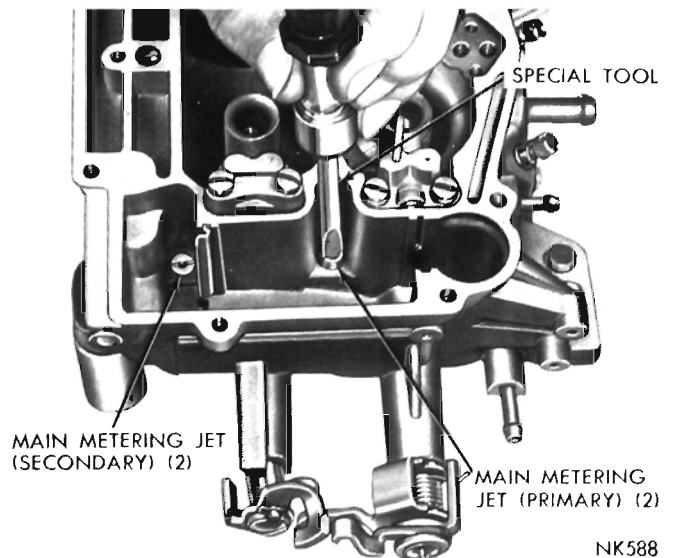

Fig. 4—Removing or Installing Main Metering Jets
(2) Using Tool T109-58, remove main metering jets (primary side), as shown in (Fig. 4). **The primary and**
(3) Again using Tool T109-58, remove main metering jets (secondary side), as shown in (Fig. 4).
(6) Install primary and secondary main metering jets, using Tool T109-58. Refer to (Fig. 4.) Tighten jets securely.
(7) Install accelerator pump intake check ball using Tool T-109-59.